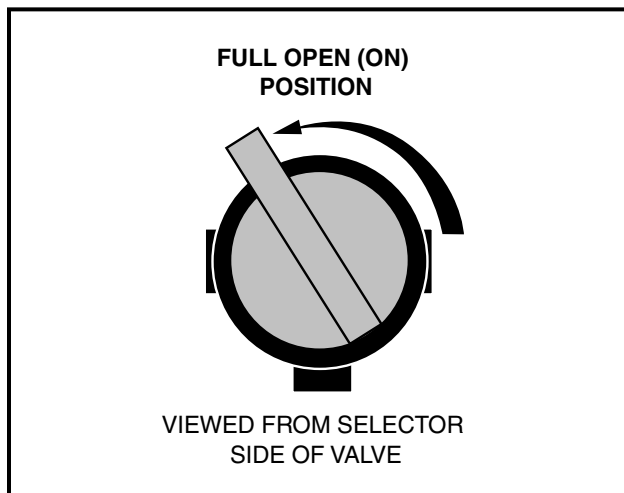
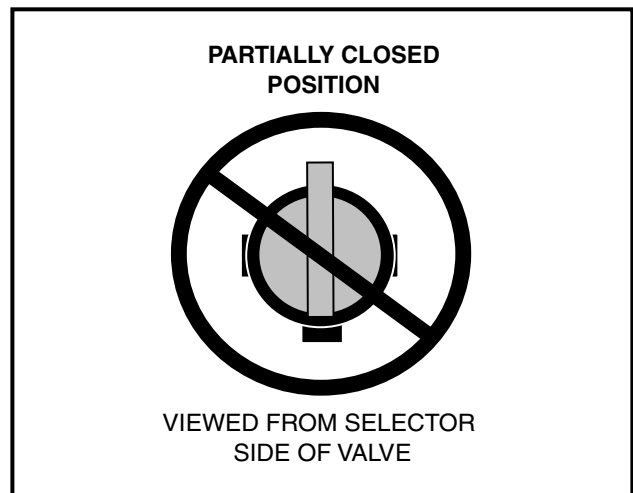

Figure 3-6 Fuel Shut-off Valve – Open
Figure 3-7 Fuel Shut-off Valve – Partially Closed Position
6. Completely open fuel shut-off valve (**Figure 3-6, Page 3-5**). Make sure the valve is fully open. A partially closed fuel valve (**Figure 3-7, Page 3-5**) combined with the use of the choke, can result in a fouled spark plug and engine failure.